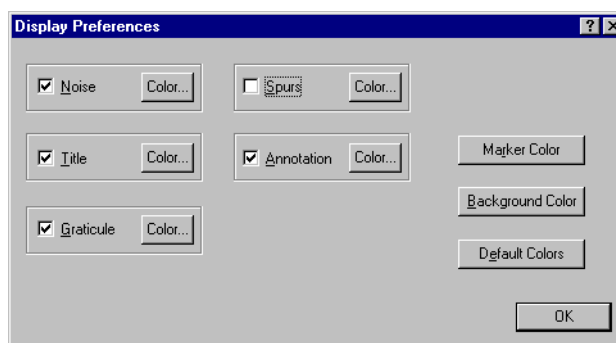

Figure 5-37 Uncheck Spurs
- 2 In the **Display Preferences** dialog box, uncheck **Spurs**. See Figure 5-37. Click OK.